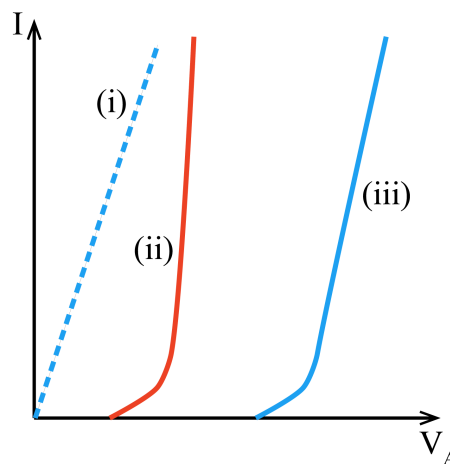

Figure 2: IV characteristics
8. (1 mark) The I-V characteristics for three different devices (i, ii, iii) are shown in the figure 2 below: